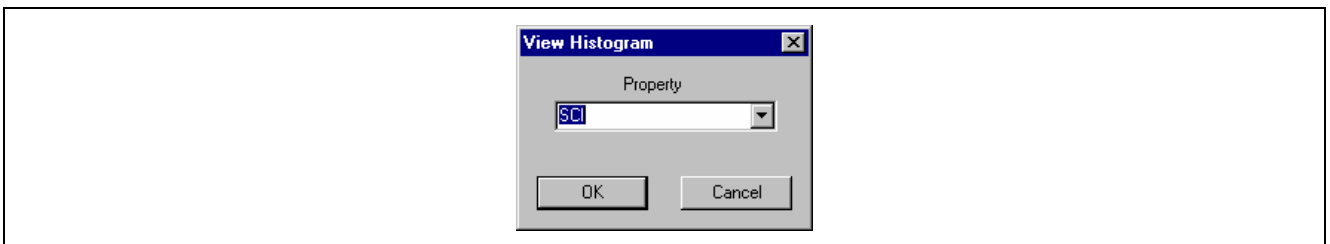

Fig. 6-81 View Inventory Histogram Data
25.3 Use the pull down arrow at Property to highlight and select SCI (Fig. 6-81).